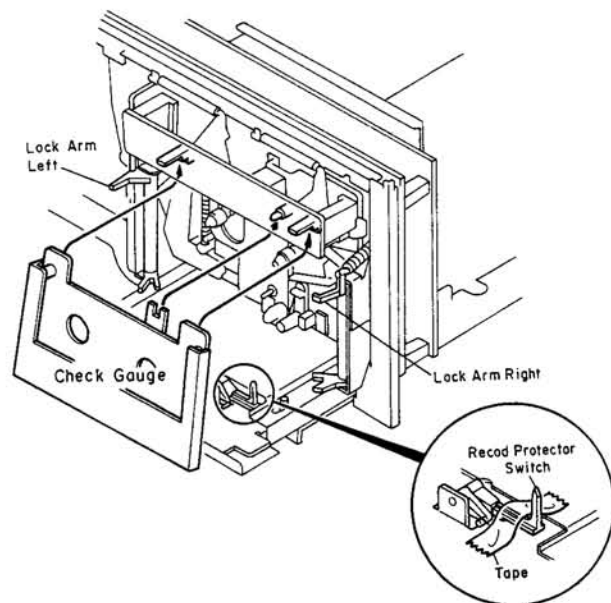

Fig. 2.2
(2) How to Load a Gauge
- Tape the Record Protector switch as shown in Fig. 2.2 to allow easy loading of a Gauge.